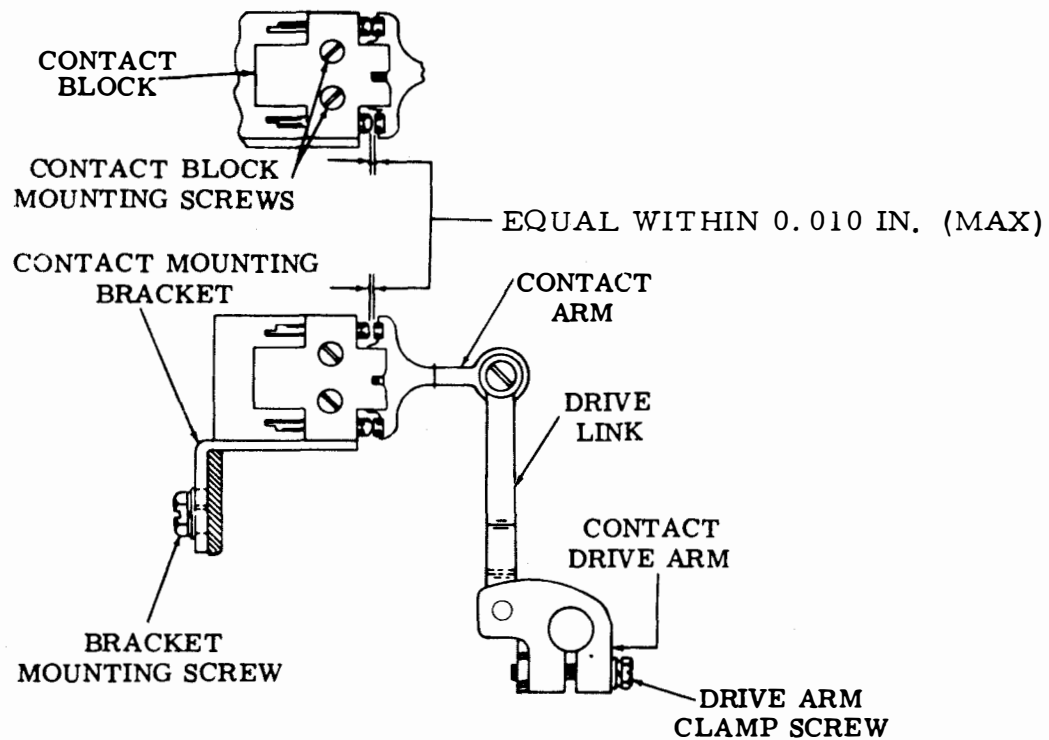

Figure 6-408. Contact Mounting Bracket, Contact Block, and Contact Drive Arm Position, Right Side View
(1) Contact Mounting Bracket. Adjust as follows:
- (a) Refer to Figure 6-408.
(2) Contact Block. Adjust as follows:
(3) Contact Drive Arm Position. Adjust as follows: